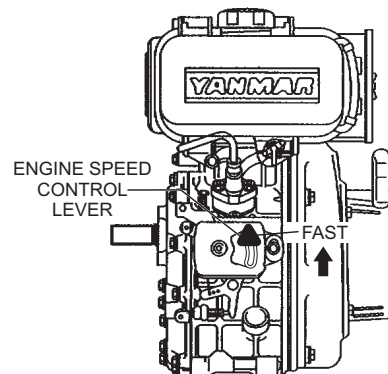

Figure 15. Speed Control (Fast Position)
1. Once the engine has started, move the engine speed lever quickly to the FAST (Figure 15) position.